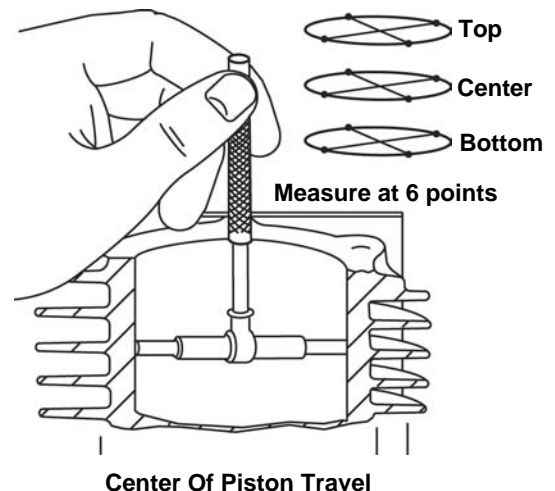

Fig. 32
2. Measure cylinder bore at 6 right angle points as shown in figure 32. Replace cylinder if bore measures more than 2.5035 in. (63.58mm).